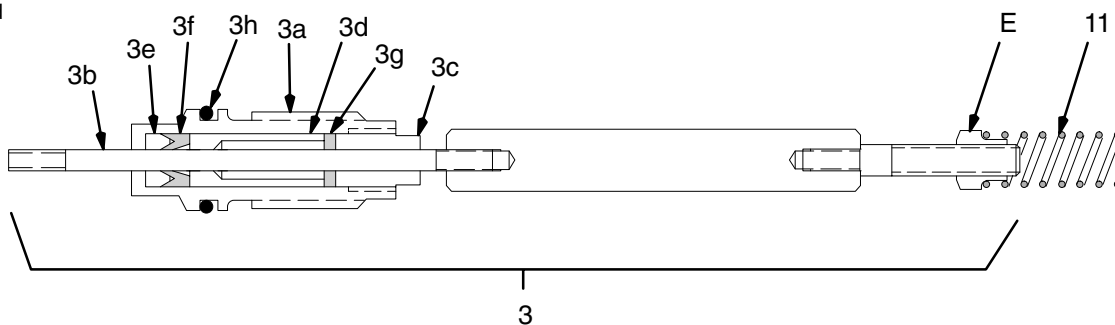

Fig 22
5. *If the parts are purchased separately*, assemble them as instructed in steps 6 to 9 and as shown in Fig 22 .
7. Fill the entire inner cavity of the spacer (3d) with the dielectric grease included with the gun. Place the spacer on the fluid rod (3b), in the direction shown in Fig 22 . Generously apply the grease to the outside of the spacer.
8. Place the fluid packing (3f), rod packing (3e), and housing (3a) on the fluid rod (3b) as shown in Fig 22 .
11. Install the fluid packing rod assembly (3) into the gun barrel. Using the 9 mm hex nut driver (45), tighten the assembly until just snug, then check the drag on the fluid rod.
12. Make sure the spring (11) is installed on the nut (E) as shown in Fig 22 .